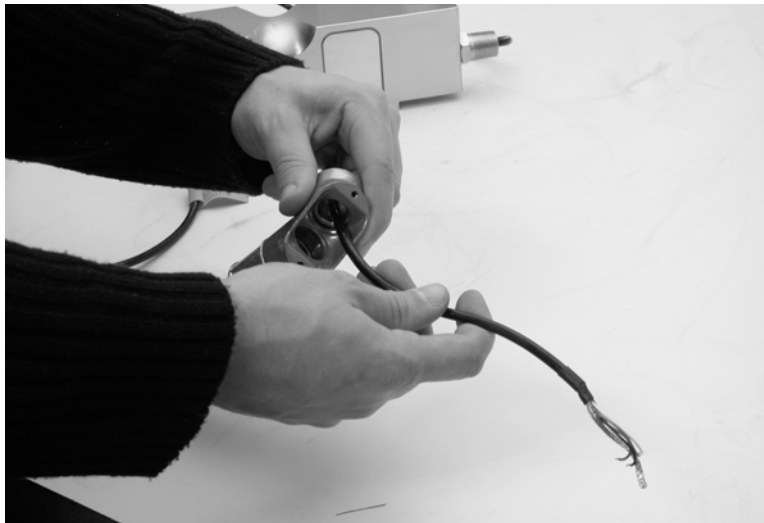

Figure 4-2. Inserting Load Cell Cable Through 90° Fitting
3. Remove cover plate from 90° fitting included with conduit assembly and insert load cell cable through fitting sticking through area where plate was (see Figure 4-2).